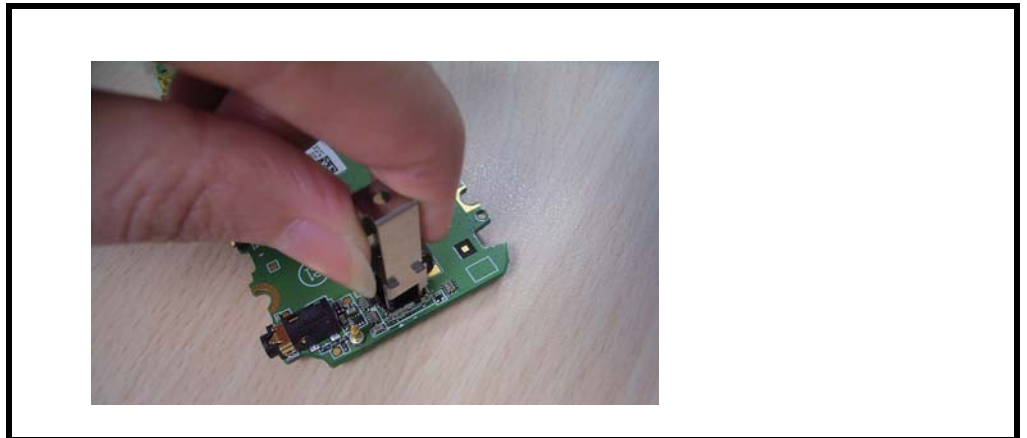

Figure 16. Removing the Camera
3. Remove the camera with the camera disassembly tool as shown in Figure 16.